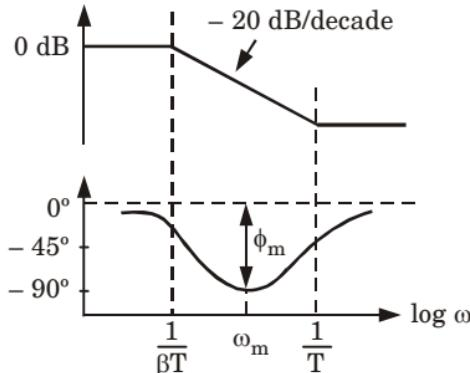

Fig. 5.5.2. Bode plot of lag compensator.
3. Bode plot for transfer function of eq. (5.5.2) is shown in Fig. 5.5.2.